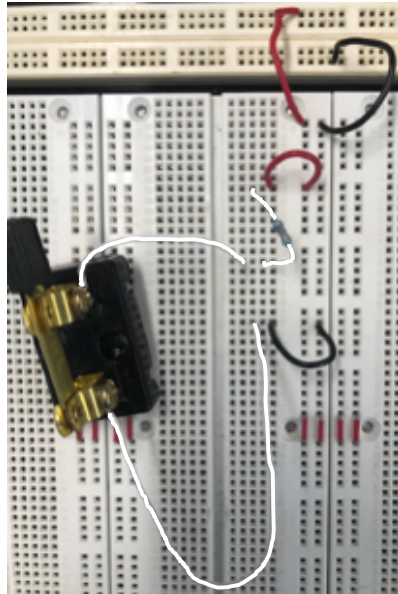

Figure 6: Knife switch circuit on the Proto-Board.
Figure 6 shows one way that this circuit can be wired-up on the Proto-Board. Notice how the resistor is connected to the switch using the row connection of the Proto-Board. The connections from the resistor to +5 V and from the switch to ground are made in similar ways.
9. Before wiring this circuit, **turn off the Proto-Board power switch.** You should always turn off the power when making wiring changes to a circuit. Connect up the circuit as shown in Figure 6. **Have the instructor inspect your circuit before continuing.**